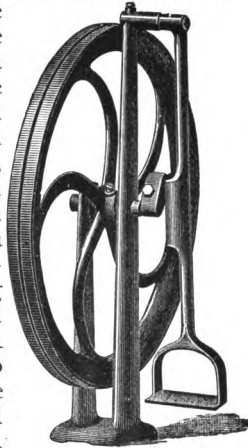
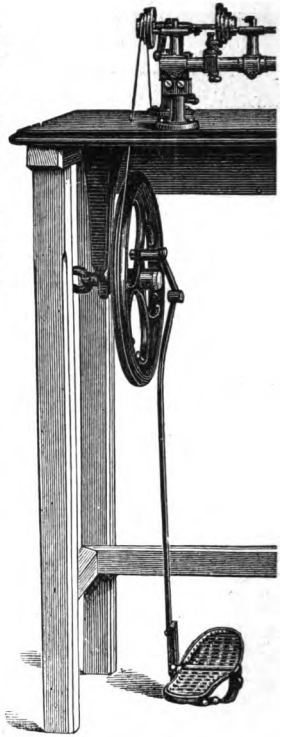

Fig. 45.
Fig. 46.
**Treadles.**—The "Webster" Swing Treadle, shown in Fig. 45, is the best I have seen for watchmakers' use. It does not require the swaying motion of the body incidental to the up and down treadle, works with little friction, and is well under control. The wooden treadle arranged as shown under the head of Bench does fairly well for the ordinary run of light turning, but there has been lately introduced an excellent and inexpensive driving wheel and treadle wherein the treadle patten, shown in Fig. 46, affords a better rest for the foot, which will be found to be conducive to the steadiness essential for fine work. The treadle or patten rests by means of pivots on a cast iron base plate screwed to the floor, and if anything is dropped the patten can be instantly lifted off for a search to be made. For heavier work or for occasionally actuating a lathe usually driven from shafting, the self-contained foot wheel and treadle shown